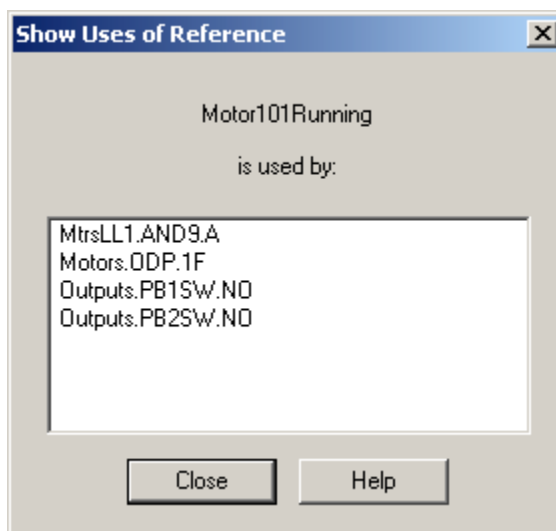

Figure 8-9 Show Uses of Reference dialog
3. Click **[Show Uses]**. The Show Uses of Reference dialog displays. See Figure 8-9.